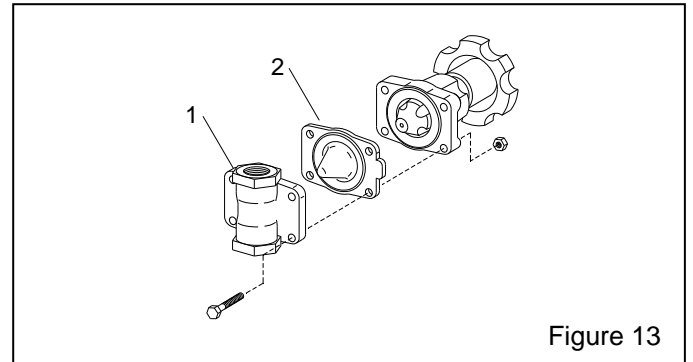

Figure 13
8.6 Media Metering Valve, Figure 13